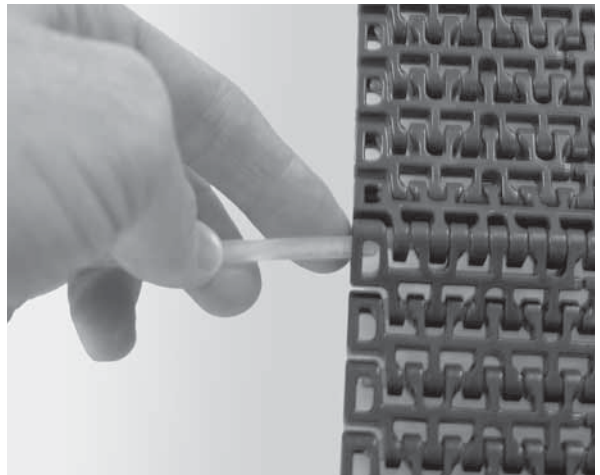

Figure 54
2. Use a second belt rod of the same size to push on the opposite end of the belt rod. (**Figure 54**).